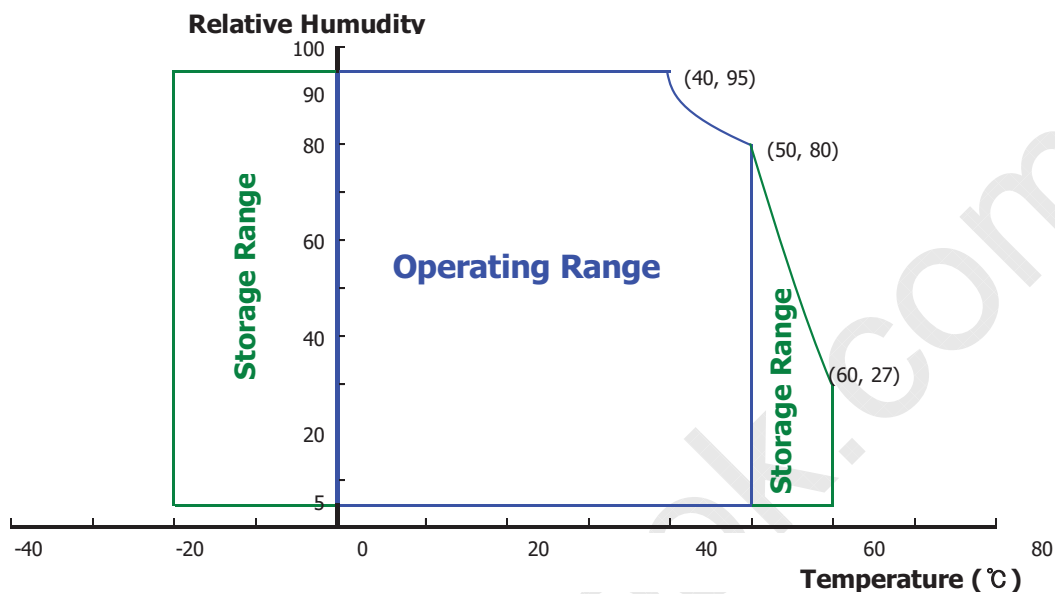

Figure 3. Temperature and Relative Humidity Range
2. the max value of LED forward current is relative to ambient temperature, the correlation is show in figure 3.